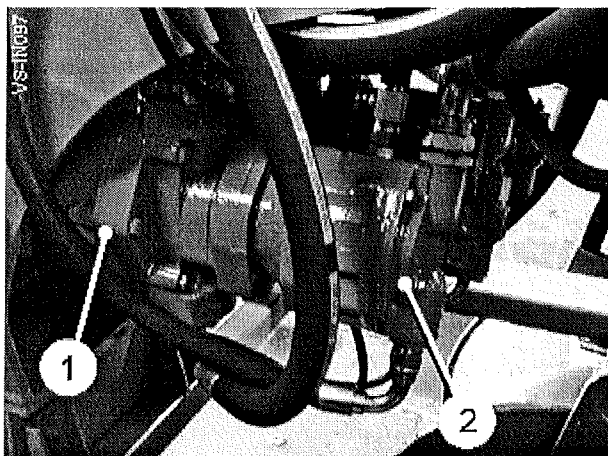

Fig 32
The LH front pump (item 1, fig 32) feeds the secondary circuit. The circuit has either a two, three or four section valve (depending on machine specification) mounted behind the LH front guard door. The first section of this valve block feeds the 2nd star separator module, and the final section feeds the 2nd web. Both of these sections are switched on/off from the control box, with the valve flow set on the display parameter adjustment.
The LH rear pump (item 2, fig 32) feeds the roller cleaner unit.. From the pump the feed is into a double acting valve mounted behind the LH rear guard door. The forward speed is proportionally controlled from the control box to give speed adjustment. On/off control is on the control box, and also a manual reverse which allows the operator to reverse the rollers to eject a blockage. Connected into the cleaner forward feed is a pressure transducer which monitors the working pressure of the cleaner, and triggers the valve to reverse the cleaner if a blockage causes too high a pressure. This set pressure can be set on the display screen. From the diagnostic menu, it is possible to read the actual working pressure of the circuit.